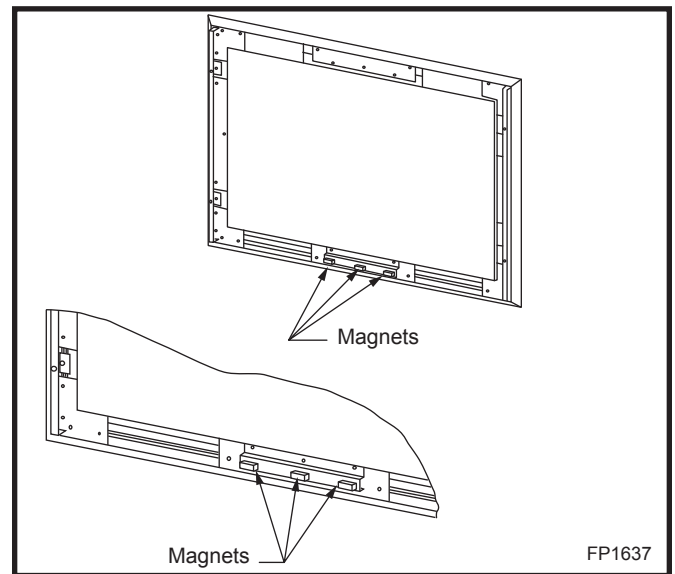

Fig. 4 Trim magnet location.
4. Double the six (6) magnets and place on the trim in three locations as shown in Figure 4.